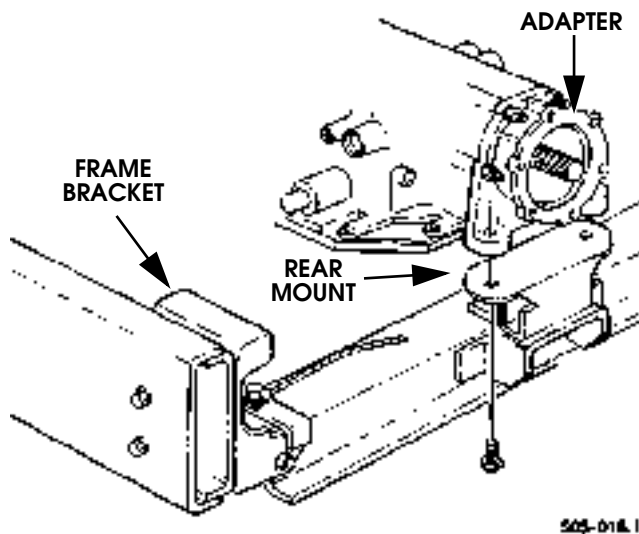

Figure 5-28: Transmission-to-Crossmember Mounting
- Remove bolts attaching rear mount to transmission (Figure 5-28).